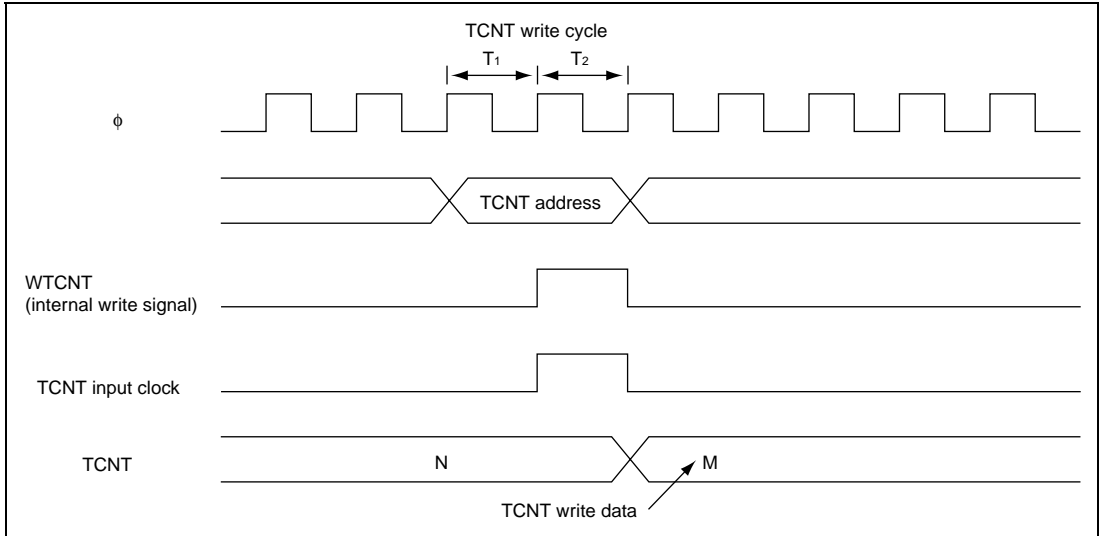

Figure 13.53 Contention between TCNT Write and Increment Operations
- Contention between TCNT Write and Increment Operations: If a counter clear signal is generated in T_2 state of a TCNT write cycle, TCNT clearing has priority and TCNT write is not performed. Figure 13.53 shows the timing in this case.